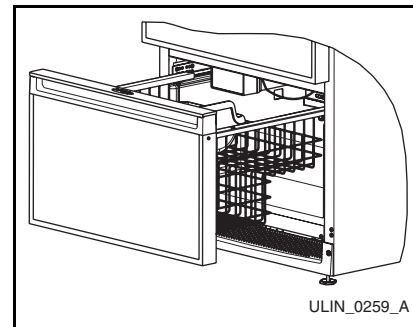

Figure 13
1. Remove the ice maker assembly cover (**Figure 13**).